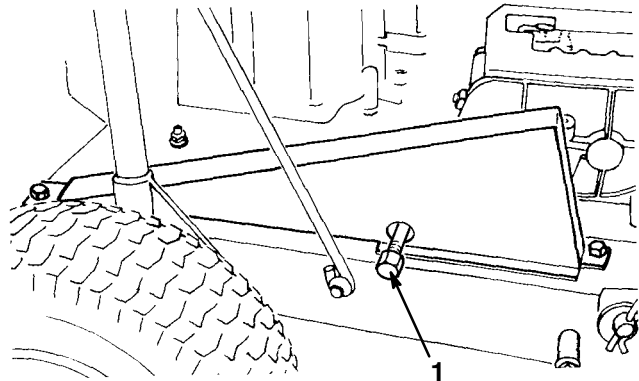

Figure 13
4. Place a drain pan below the drain plug (Fig. 13). Remove the drain plug. Allow all of the oil to flow into the drain pan. When the oil has drained completely, install the drain plug.